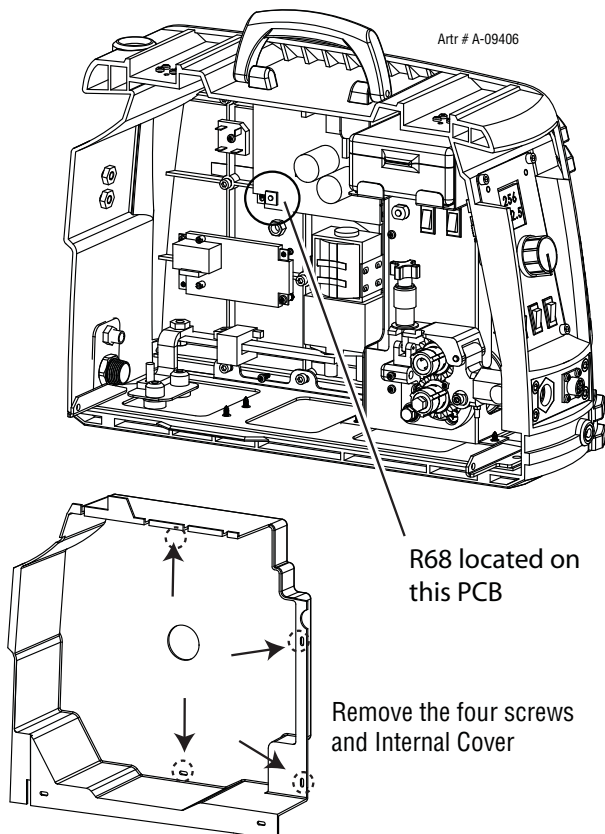

Figure 4-3: Accessing PCB for Burnback
2. Remove the internal cover (refer to Figure 4-3).
3. Locate component R68 (Burnback) on the motor control printed circuit board (refer to Figure 4-3). The best procedure is to make only slight adjustments until the amount of burnback is acceptable. Component R68 has a single turn (300°) range of adjustment.